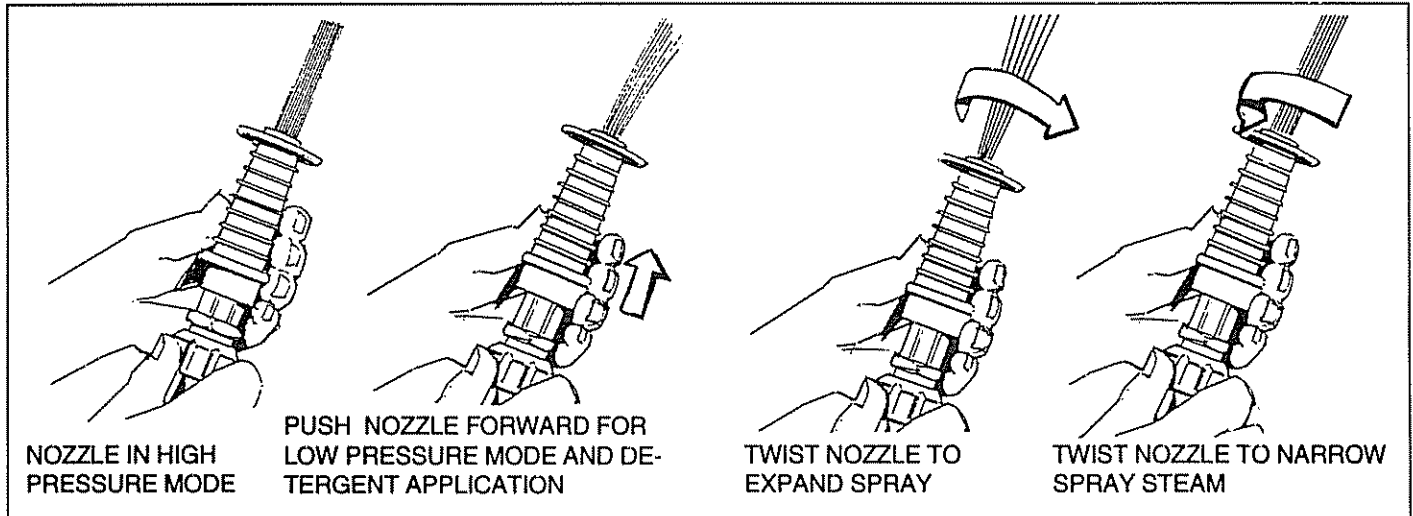

FIG. 13
- Push the nozzle attachment forward when you wish to adjust the spray to low pressure mode (Fig. 13). Push the nozzle backward to achieve high pressure.
- Set nozzle to low pressure mode. Detergent is not siphoned in the high pressure mode (Fig. 13).